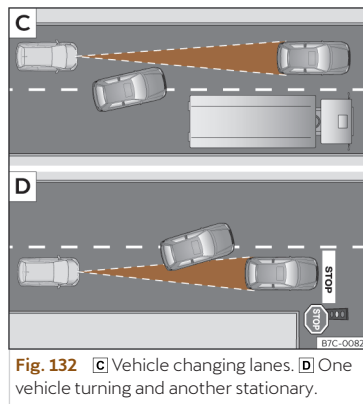

Fig. 132 **C** Vehicle changing lanes. **D** One vehicle turning and another stationary.
- Vehicles that move into your lane, a short distance from your vehicle >>> **Fig. 132 C**.
The ACC may not react to stationary vehicles. If, for example, a vehicle detected by the ACC turns or moves over and there is a stationary vehicle in front of it, the ACC will not react to the second vehicle >>> **Fig. 132 D**.